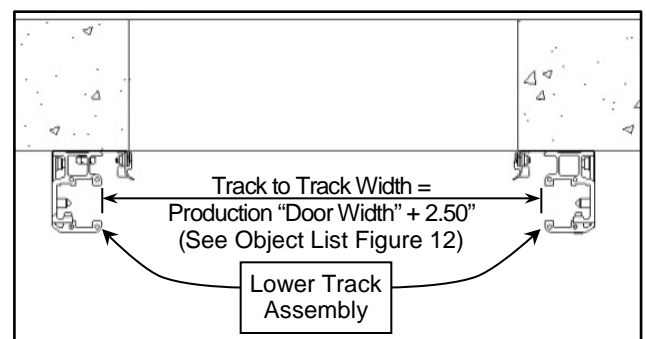
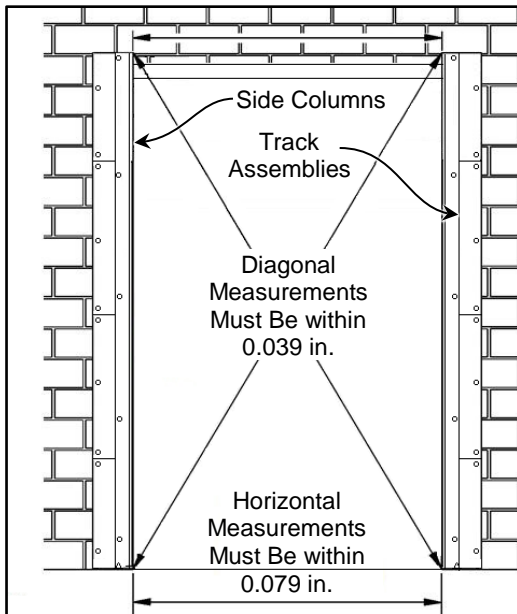

Figure 26
Figure 27
IMPORTANT: Lower Track Assembly spacing is critical and they must be spaced as in Figure 26.
16. With both columns and lower track assemblies set and snugly bolted in place, check the overall plumb and square of the mounted columns and most importantly, the lower track assemblies. (See Figure 27)
17. Check the alignment between both track assemblies and Track to Track width as given in the Object List. Adjust as necessary. (See Figure 12, Figure 26, and Figure 27)